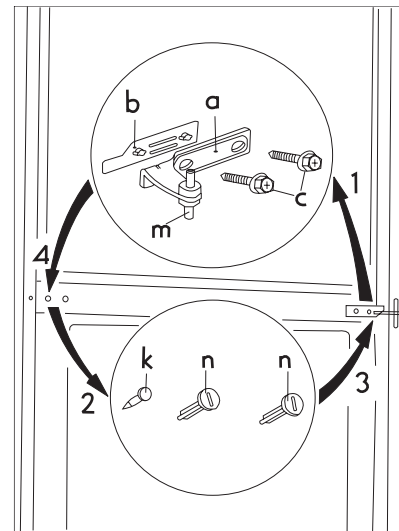

fig. 2.
3. Open the doors and dismantle the double door hinge (a,b) by removing the screws (2 pieces) (c). (fig. 2)
4. Take off the double door hinge (a,b,c) by gradually removing it from the cabinet, slightly tilting both doors. Do not forget to remove the plastic spacer (b) under the hinge. (fig. 2)
11. Remove the blanking pins (3 pieces) (n,k) of the double door holder on the left side and put them to the other side. (fig. 2)
12. Fit the pin of the double door hinge (m) into the left drill of the freezer door. (fig. 2)